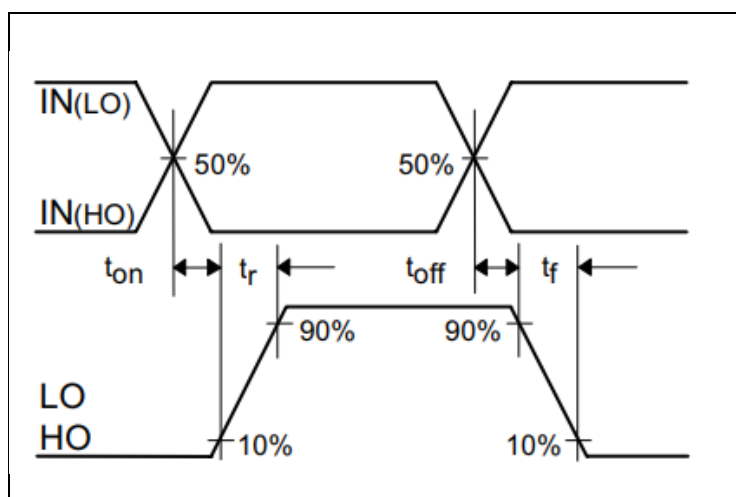
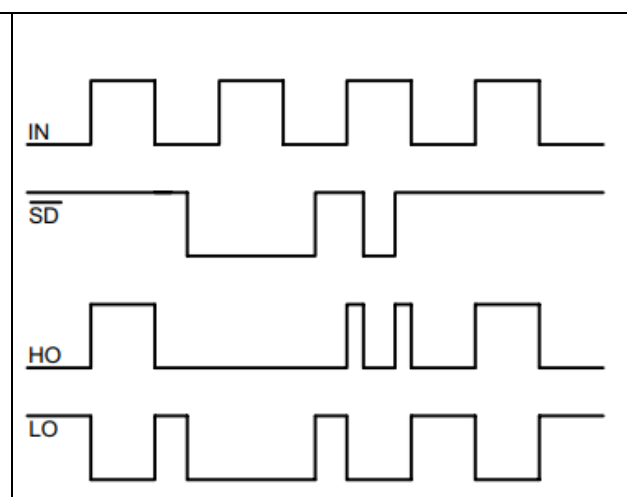

Figure 6 Switching timing diagram
Figure 7 Input/output logic diagram
The relationships between the input and output signals of the 2ED2184 (4) S06F (J) are illustrated below in Figure 6 and Figure 7. From these figures, we can see the definitions of several timing parameters (i.e. t_{ON} , t_{OFF} , t_R , and t_F) associated with this device.